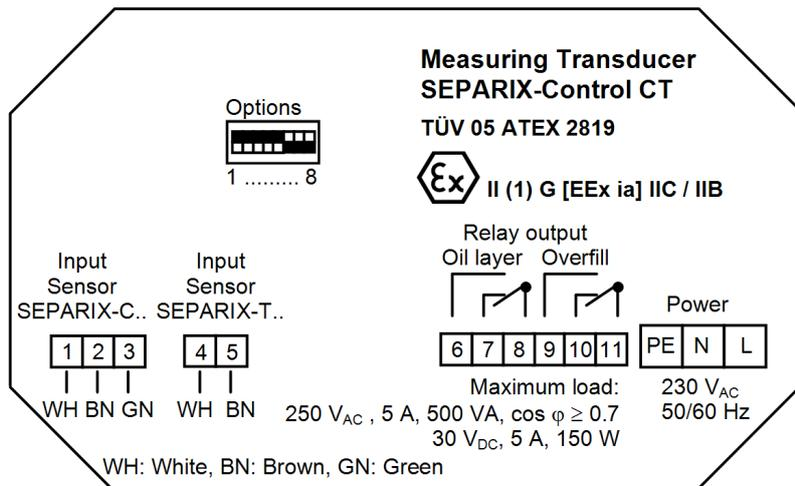

Figure 6: SEPARIX-Control CT, terminals and "Options" DIP switch
*Observe the maximum operating parameter values specified in the connection diagram (see Figure 6).*
- (1) Check the configuration of the measuring transducer and correct if necessary (see section 4.2).
- (2) Whichever applicable, connect the SEPARIX-C L Plus interface sensor to the measuring transducer according to the connection diagram.
- (3) Whichever applicable, connect the SEPARIX-T L Plus high-level sensor to the measuring transducer according to the connection diagram.